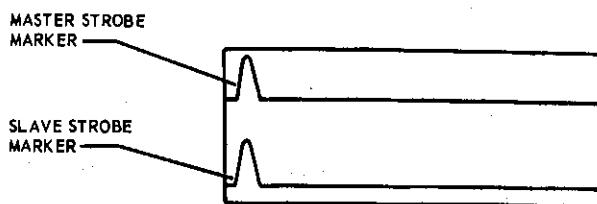

Figure 4-56. Operating Procedure for LORAN A Signal Acquisition Step 3e
e. Set FUNCT switch to position 2. Use DELAY switch to position slave pulse directly under master pulse. For the FUNCT switch in positions 2-5, the slave pulse will move in an opposite direction to the setting indicated on the DELAY switch. For example, a DELAY switch setting of R-coarse or R-fine will cause the slave pulse to move to the left with the FUNCT switch in any position between 2 and 5 inclusive. Under the same conditions, a DELAY switch setting of L-coarse or L-fine will cause the slave pulse to move to the right. Once the slave pulse is positioned under the master pulse, use the framing control to frame both pulses to the left onto the strobe markers as indicated in figure 4-56.